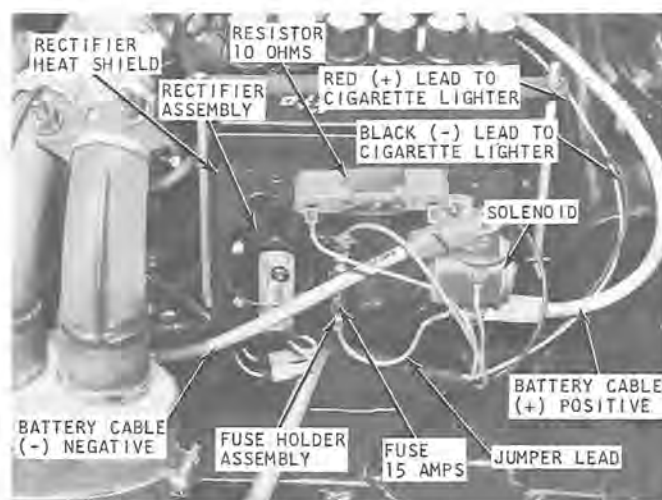

Figure 3—Mark V Only
- Place 12-volt battery on the battery support plate with positive (+) terminal post forward (see figure 3).